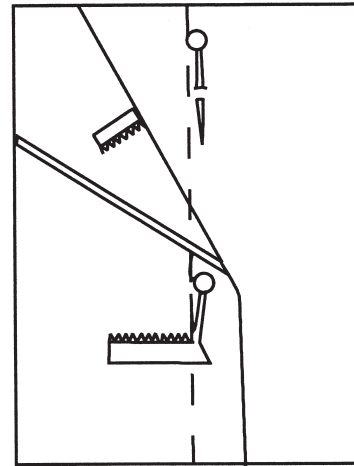

Figure 13
- After making the buttonholes and cutting them open, lap the garment edges, matching center, so it looks like it's buttoned (Figure 13).